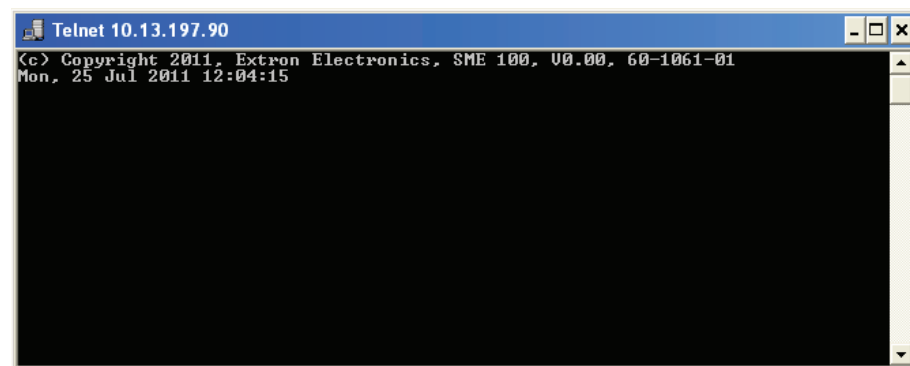

Figure 100. Telnet Connected to SME 100
4. The Telnet application is connected to the SME 100 when the window displays the copyright message (see figure 100). SIS commands can now be sent to the SME 100.